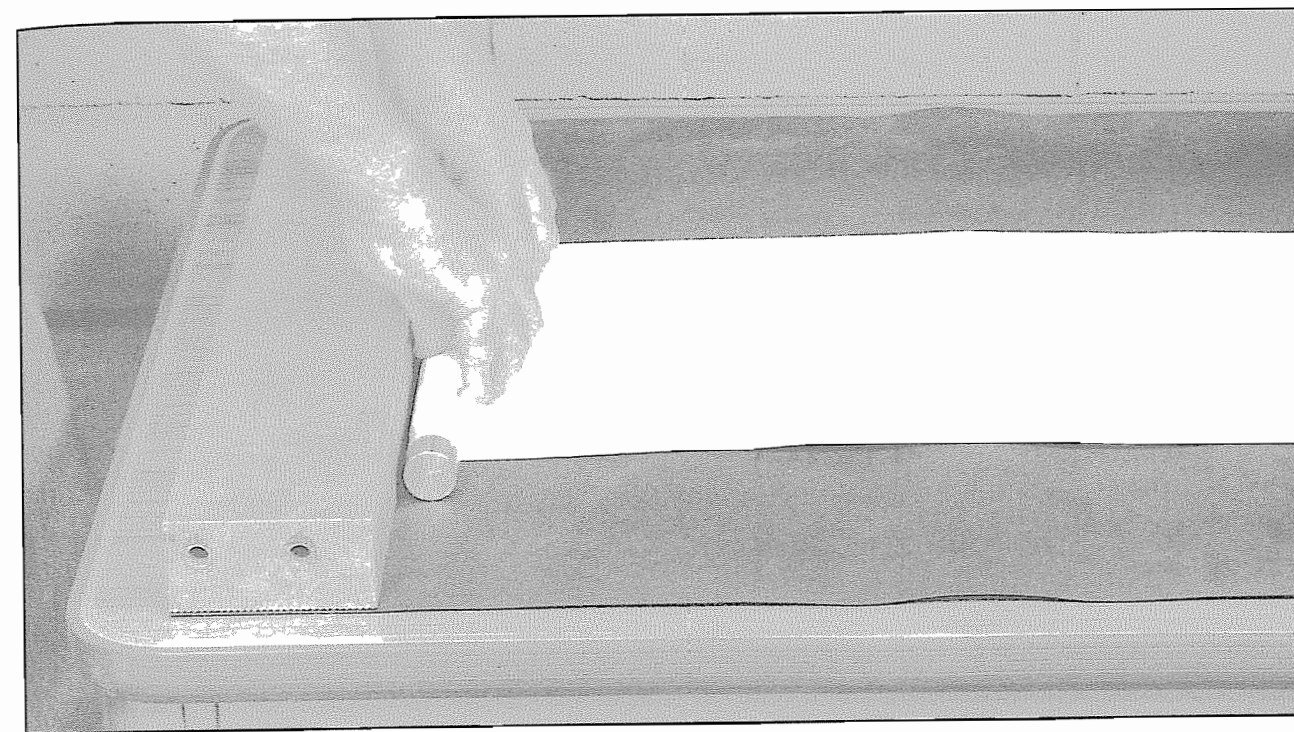
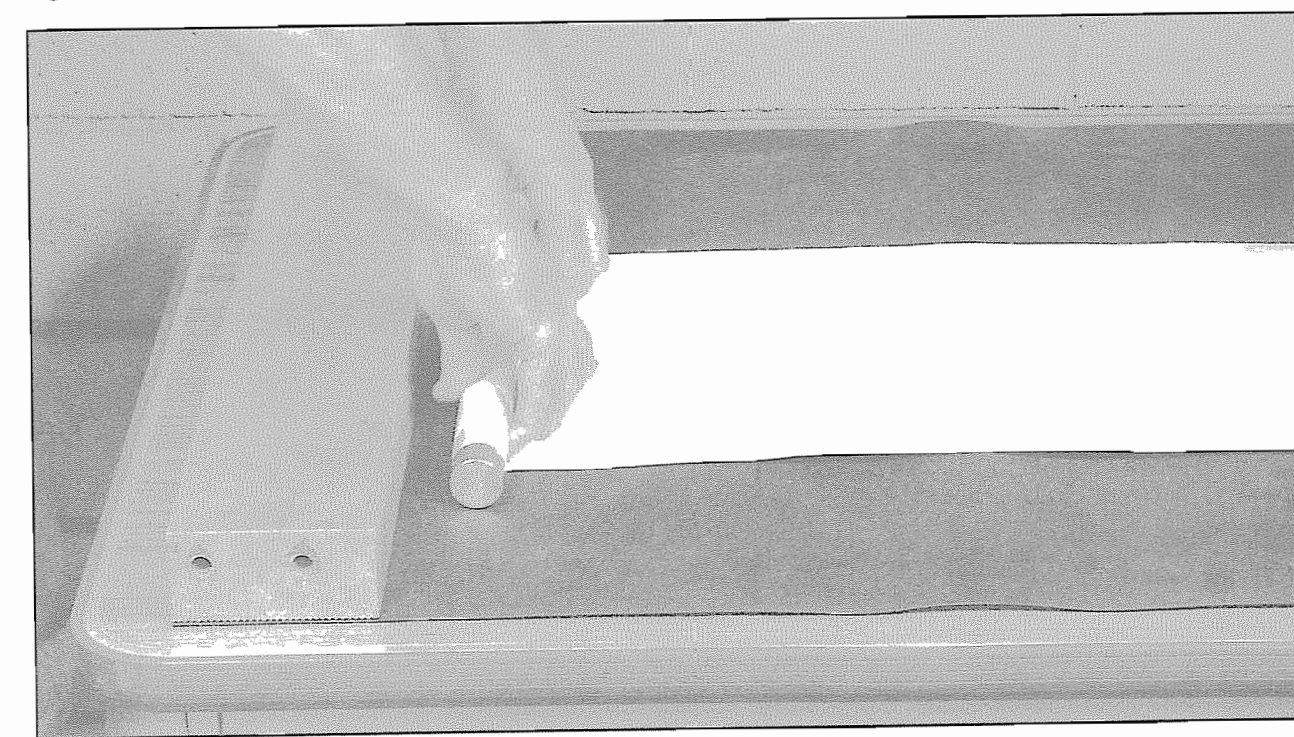

Figure 8-25. The end of the paper is rolled over the top of the bar.
Figure 8-26. The end of the paper is tucked under the bar.
7. Pressing firmly down on the bar so that it doesn't wiggle, roll the end of the paper over the top of the bar (*Figure 8-25*), and tuck it under the bar as tightly as you can (*Figure 8-26*). You'll find that long fingernails and the beveled corners of the paper are helpful when doing this.